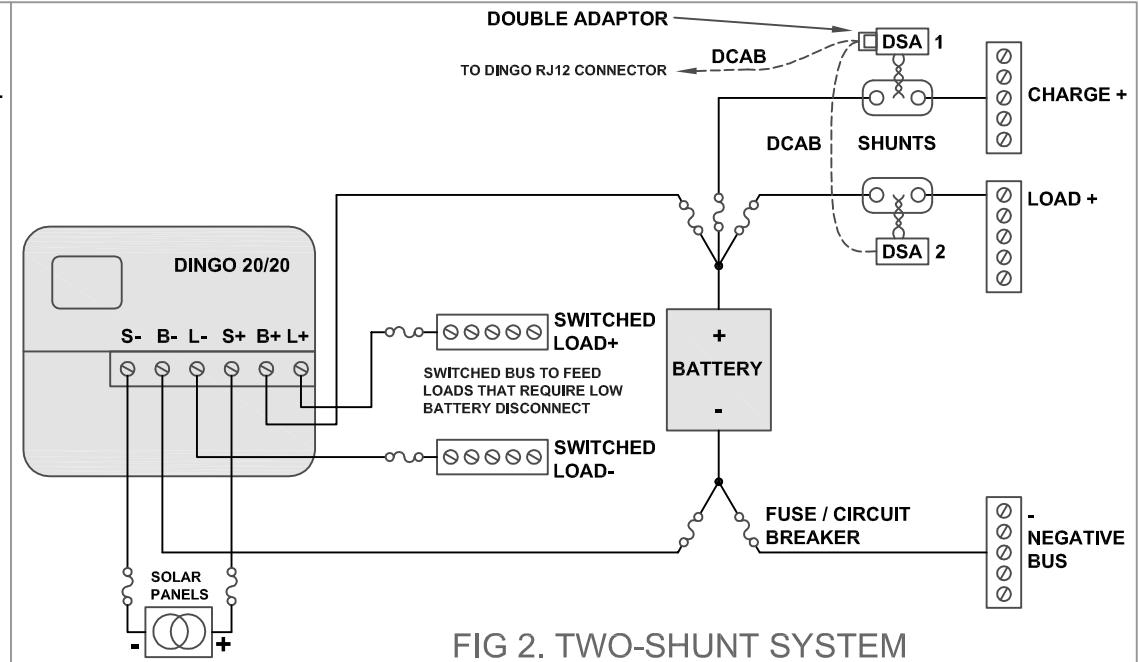

FIG 2. TWO-SHUNT SYSTEM
7. IN FIG 2, DSA1 READS TOTAL EXTERNAL CHARGE CURRENT AND DSA2 READS TOTAL EXTERNAL LOAD CURRENT.